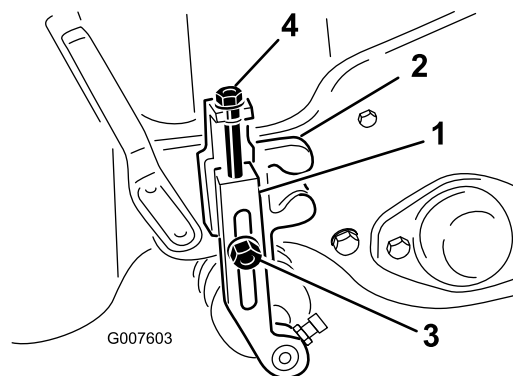

**Figure 47**
12. Test the cutting performance by inserting a long strip of cutting performance paper between the reel and bedknife, perpendicular to the bedknife (Figure 47). Slowly rotate the reel forward; it should cut paper.